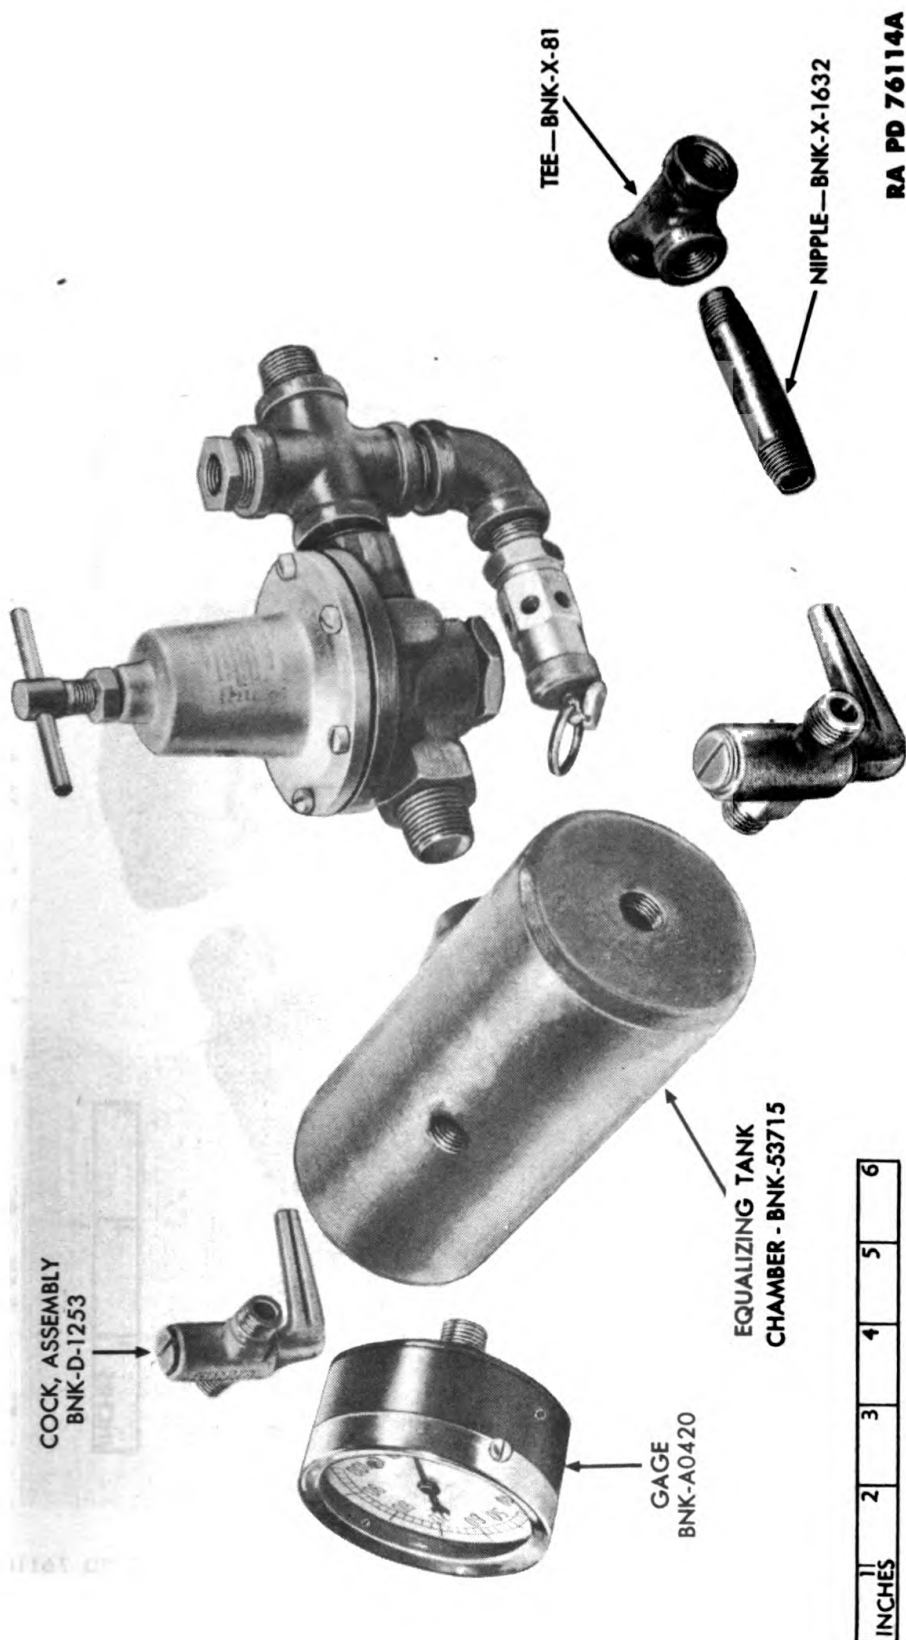

Figure 147 — Equalizing Tank Pressure Gage, Regulator, and Fittings for Air Compressor
(26) Unscrew the equalizing tank and related parts as shown in figure 146. The parts are further disassembled as shown in figures 147 and 148.